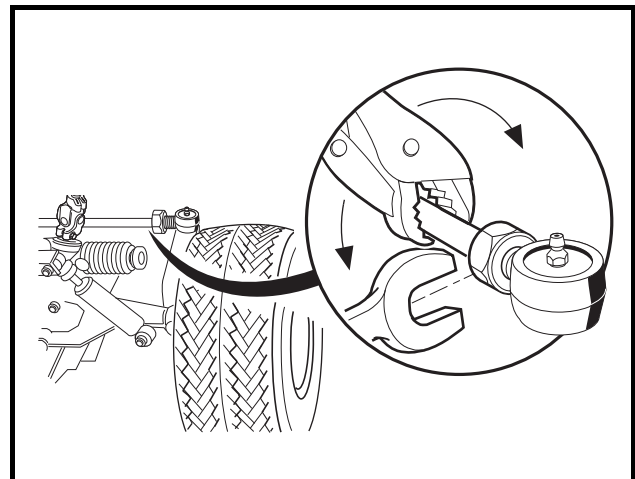

Figure 7-18 Adjust Toe-In
- If adjustment is necessary, loosen the jam nut on each tie rod ball joint and rotate the tie rod to increase or decrease toe-in (**Figure 7-18, Page 7-16**). **See following CAUTION.**